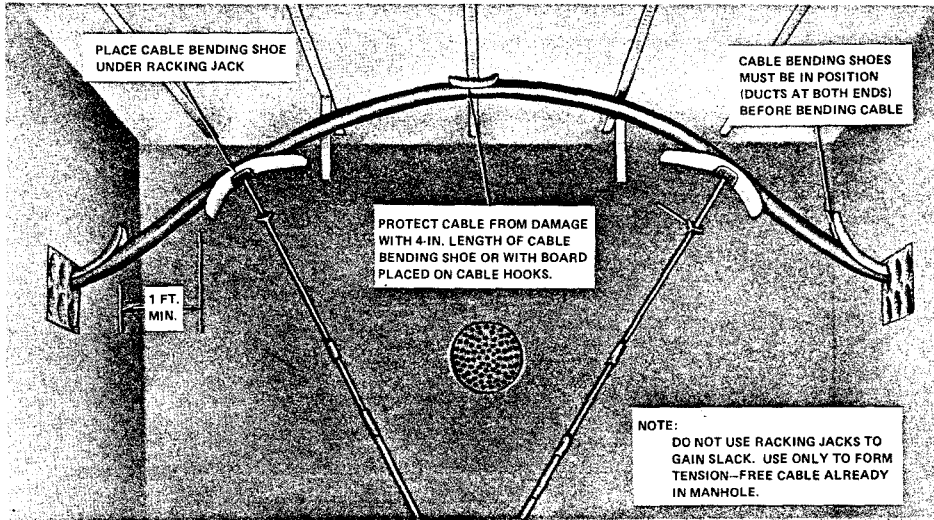

Fig. 10—Bending Cable With B Cable Racking Jacks
(8) To start bending the cable into the corners of the manhole, position one or two B cable racking jacks on the cable with a cable bending shoe between the cable and the jack (see Fig. 10). A minimum spacing of 1 foot is required between the shoe in the duct and the shoe under the jack. Assemble appropriate extension lengths